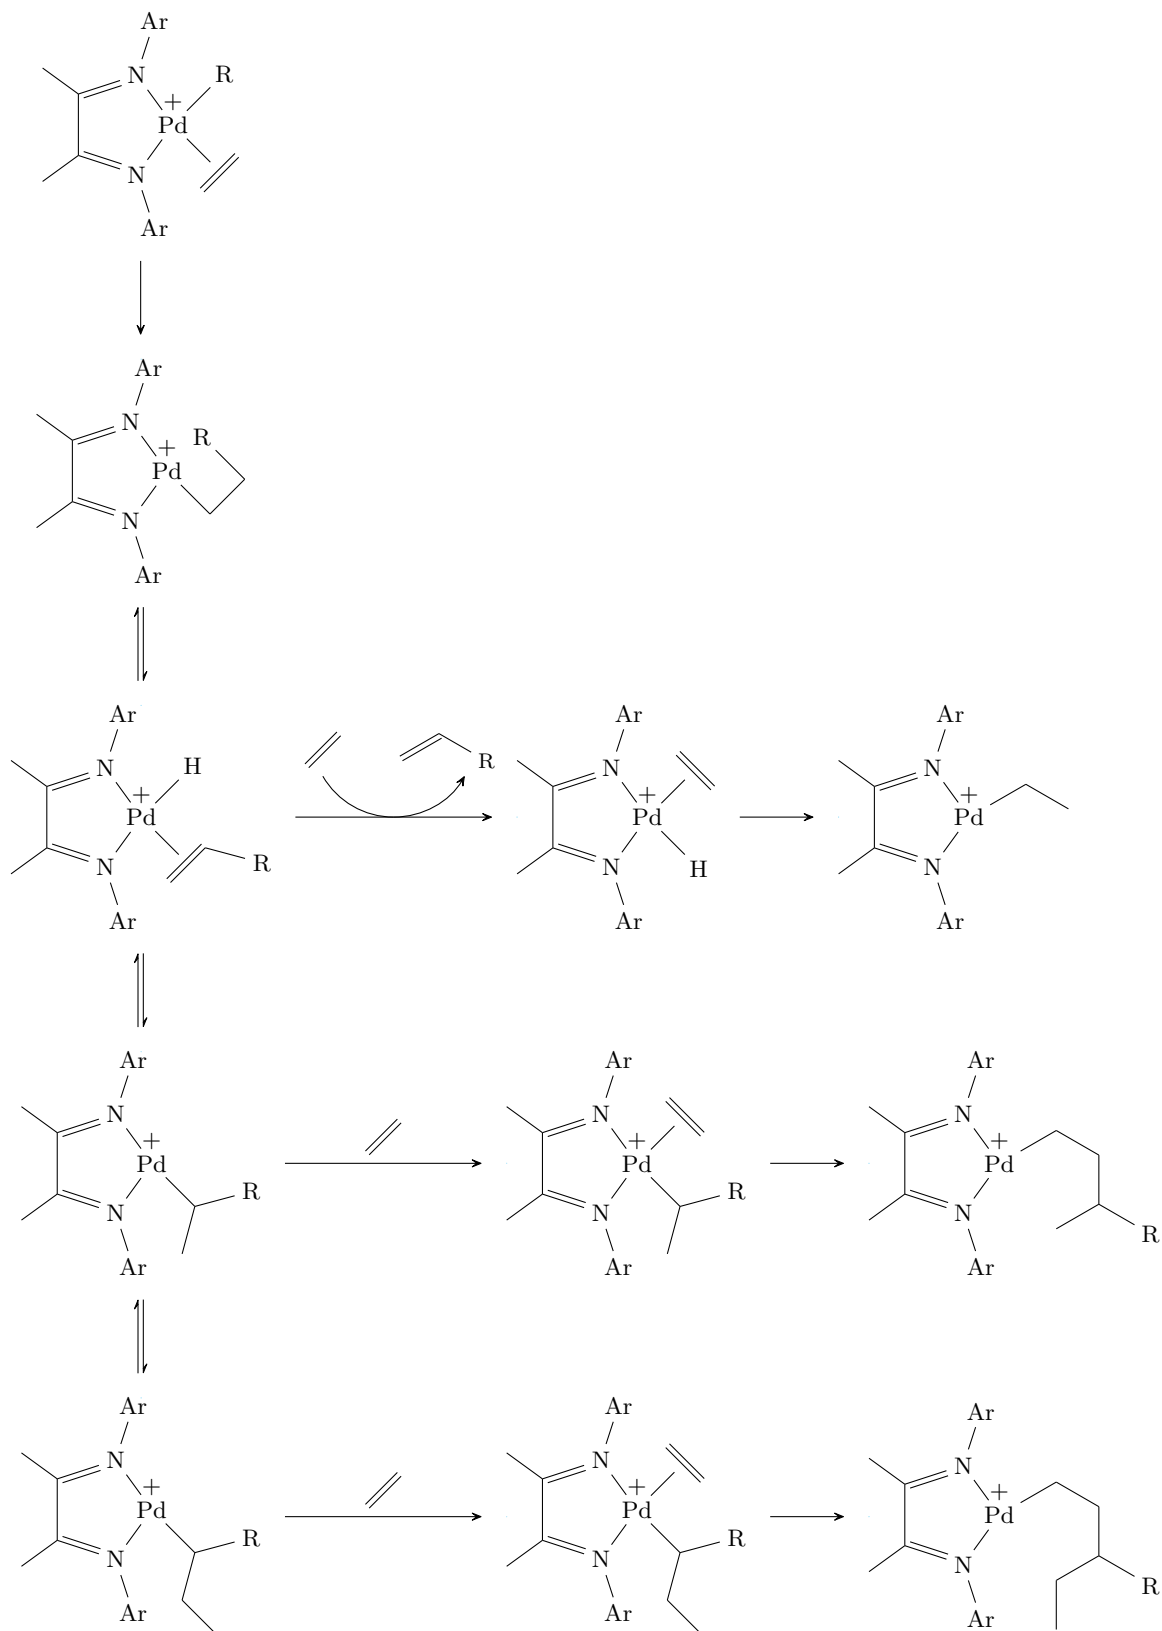

Figure 5.7: Polymerization with Brookhart catalysts.
- Brookhart type nickel- and palladium-based polymerization catalysts are introduced in Section 11.3.3 of the text. These catalysts differ from metallocene catalysts in that (1) the resting state is the (diimine)MR(ethylene)+ adduct 1, (2) chain walking is much faster than chain growth, (3) ethylene insertion into secondary alkyl metal species is fast, and (4) a hyper branched polyethylene is produced (ca. 100 branches at 1000 °C).
- A mechanism for polymerization showing how branches are formed (see Figure 5.7).
- It's Zr(IV) as a cation.
- Palladium(II) is d^8 and soft, while zirconium(IV) is d^0 and hard. While both are poor backbonders, the soft character of the former leads to stronger metal olefin coordination. This enables β -H elimination of (diimine) $\text{PdCH}_2\text{CH}_2\text{R}^+$ to form (diimine) $\text{PdHCH}_2=\text{CHR}^+$ to compete with trapping by ethylene to form the resting state, and thus enables chain walking to compete with growth.